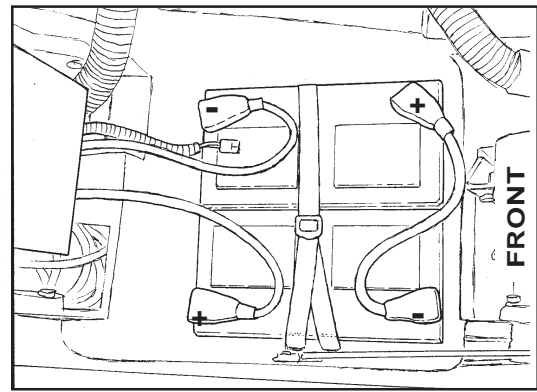

Figure 11
9. Place the batteries in the compartment shown in Figure 11.
10. Connect the cable between the batteries and install the long machine cables as indicated (See Figure 11).